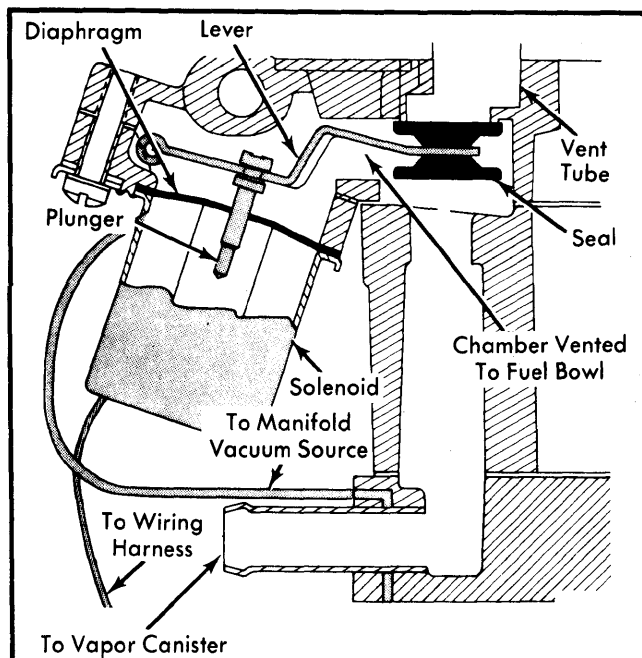

Fig. 13 Cutaway View of Solenoid Vent Valve for Checking Vent Valve Operation
- 4) Look down through air horn vent tube and observe valve movement. See Fig. 13.